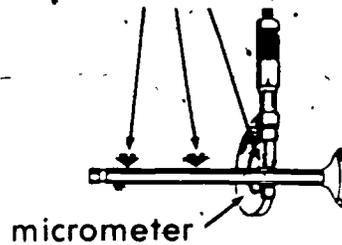

FIGURE 1
2. Measure the valve stem with a micrometer (Figure 1)